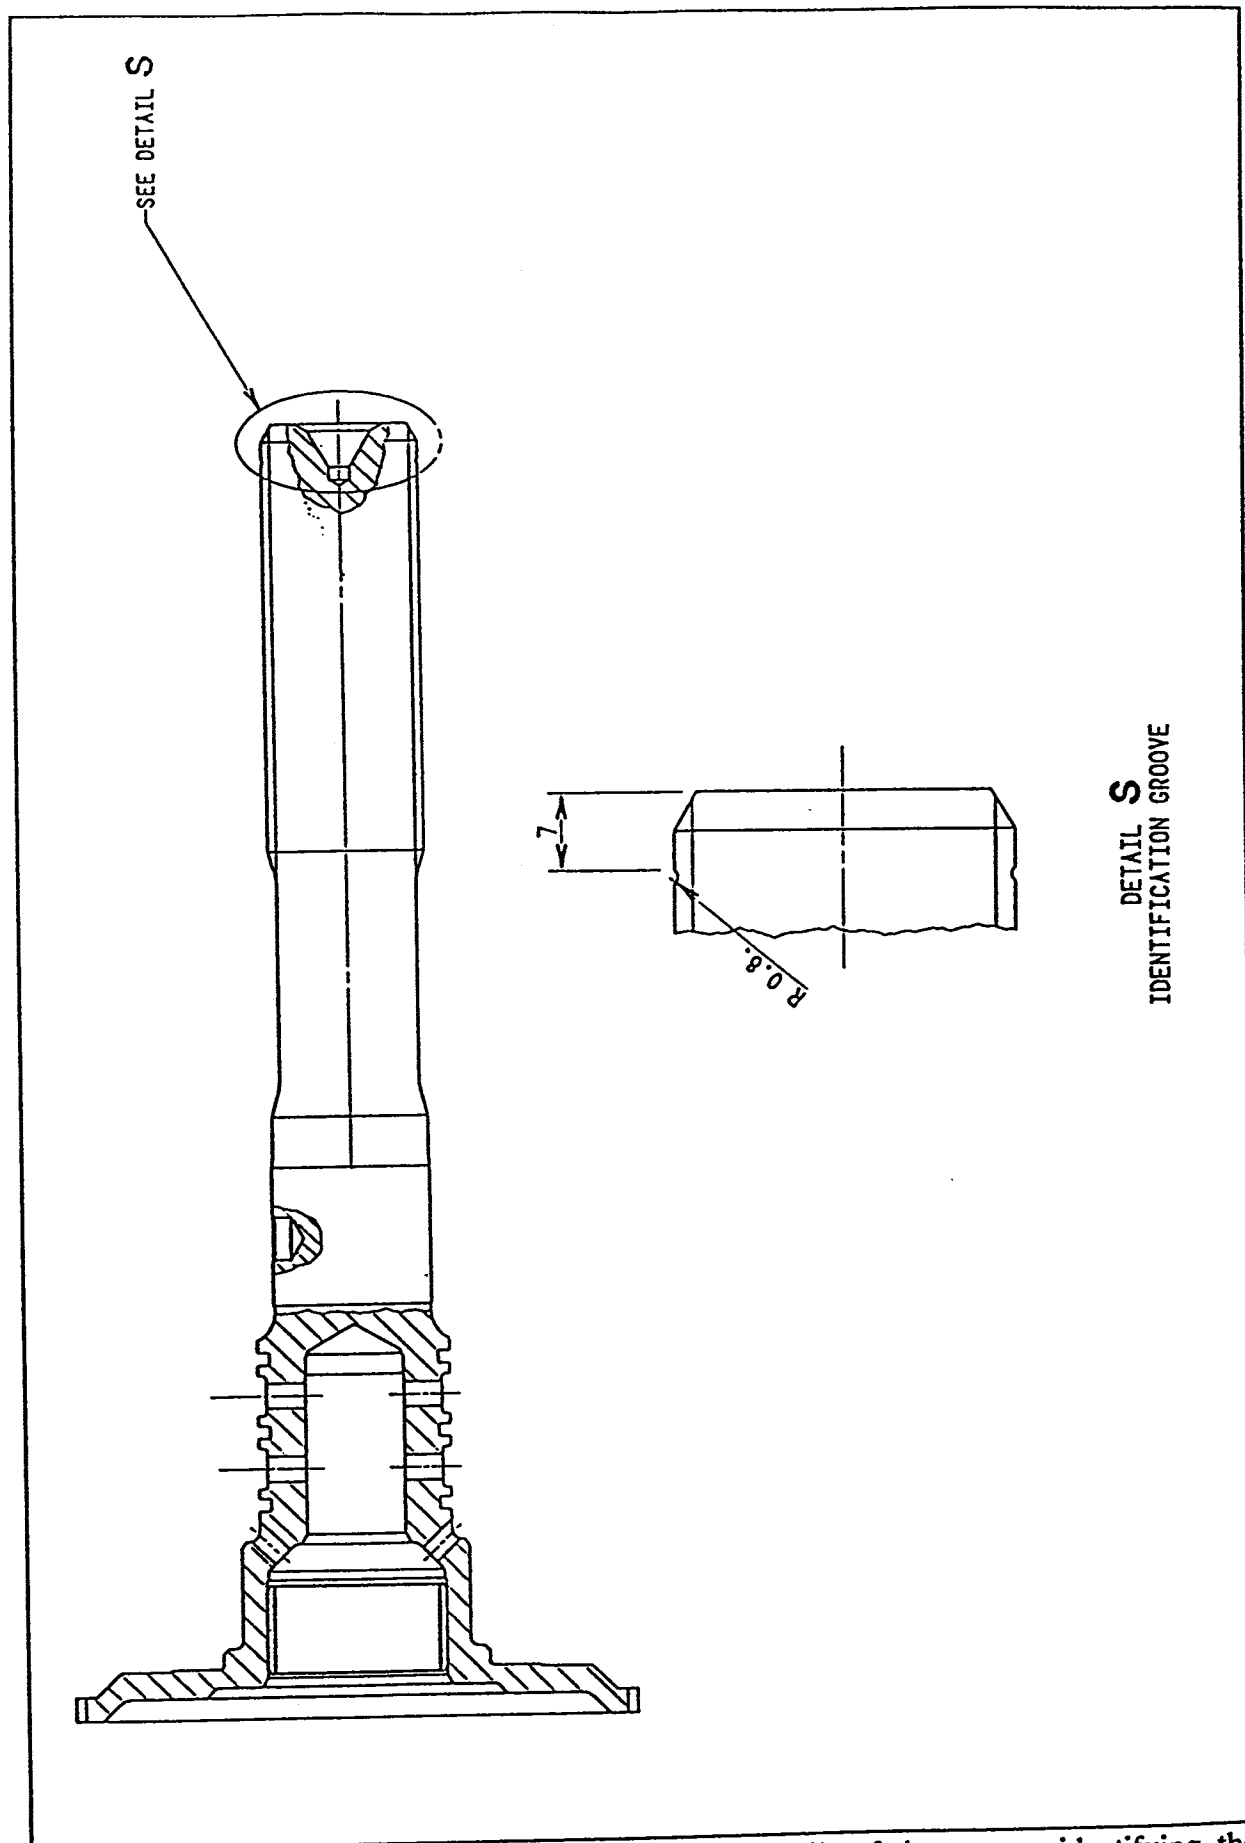

Figure 5 : Sketch of the location and construction details of the groove identifying the new design of output shaft.
- c. The new output shaft has a radiused groove (R 0.8) in the splines. This groove is 7mm from the end face of the output shaft. Refer to Figure 5.